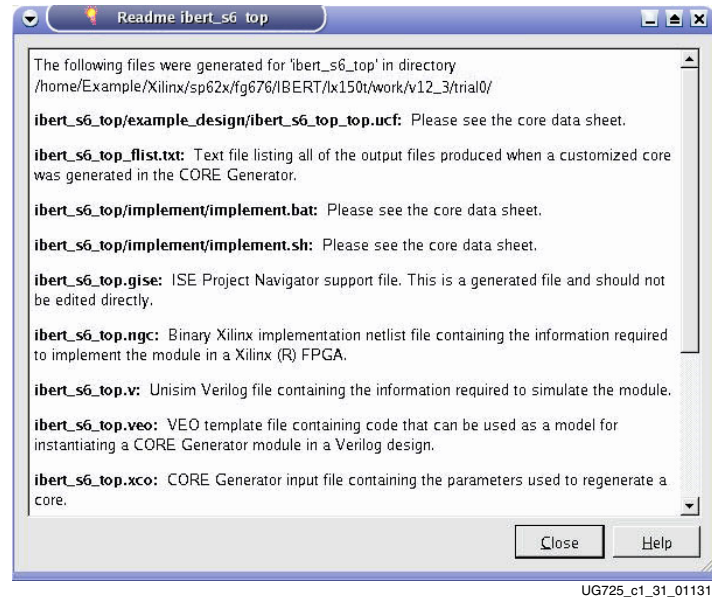

Figure 1-28: IBERT Core Readme
16. A readme window for the **ibert\_s6\_top** core opens after core generation completes (Figure 1-28). Review the list of files created and click **Close** when finished.